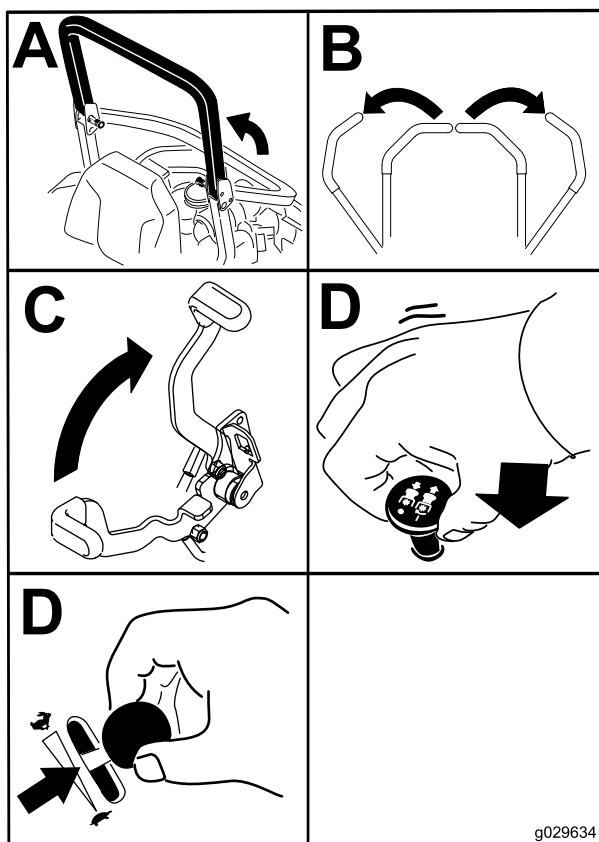

Figure 21
4. Move the blade-control switch (PTO) to the OFF position (Figure 21).